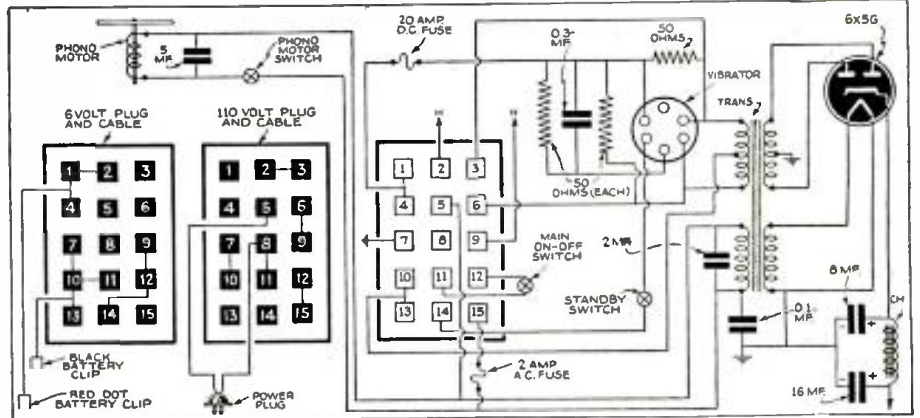

Fig. 6. The provisions for changing from electric to battery operation in an 18-W. mobile amplifier.
- (5) If the image is not steady, the "Hold" controls will require slight readjustment. If the image is moving sideways the Horizontal Hold (inner "I" section of the knob) requires readjustment. If the image is moving up or down or is off position, then the outer ring "O" of the knob, Vertical Hold Control, requires readjustment. See Figs. 6 and 7.
- (6) Adjust the Volume Control and the Tone Control (Fidelity-Selector knob) for best sound reception.
- (7) If an interfering ripple is observed in the image, adjustment of the Fine Tuning knob may reduce or eliminate the distortion. If it does not, the dealer's technician should make a check-up.
- (8) If the image appears out of focus, carefully turning the Focusing Control on